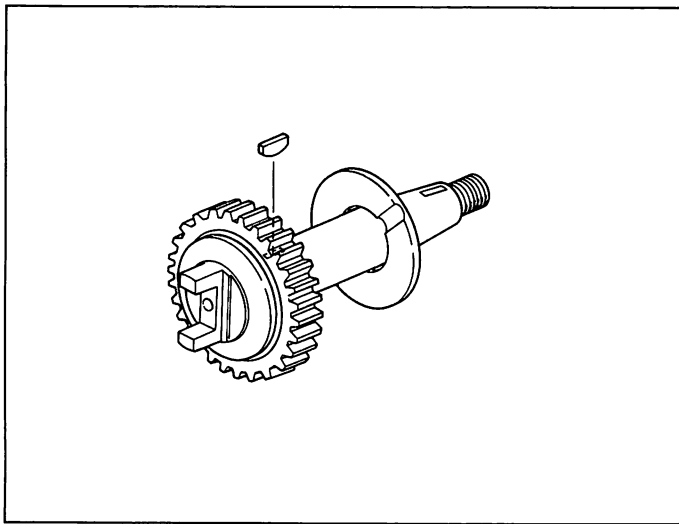

Fig. 43 Installing the washer and woodruff key
3. Fit the washer (17) and feed pump woodruff key (12/2) onto the drive shaft. (Fig. 43)